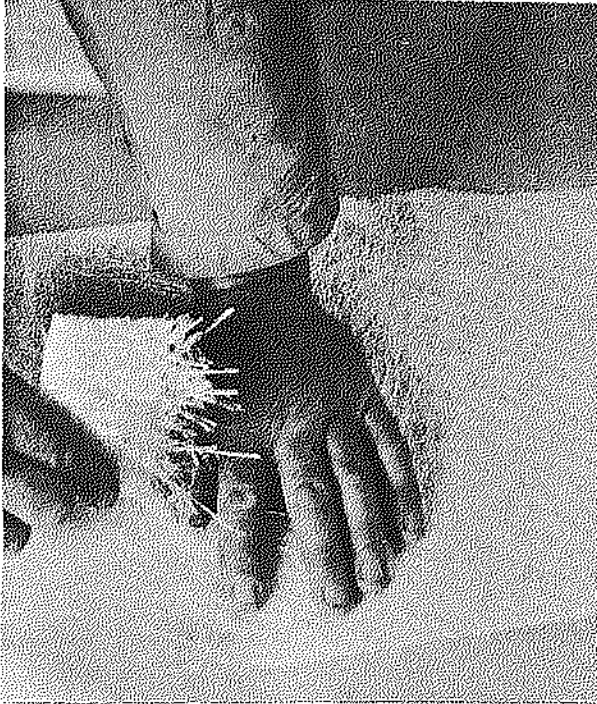

Fig. 4 - Tearing Piece of Mat for Patch
3. From the repair kit, cut or tear suitable size pieces of mat for patches, Fig. 4.